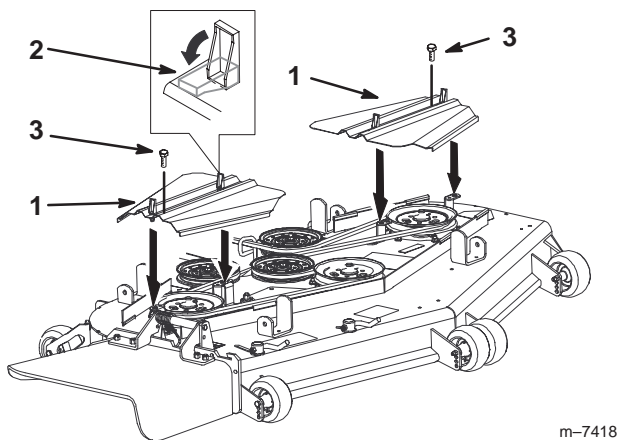

Figure 73
3. Remove the bolts from the belt covers (Fig. 73).
4. Remove the belt covers (Fig. 73).
8. Install the belt covers and close the latches (Fig. 73).